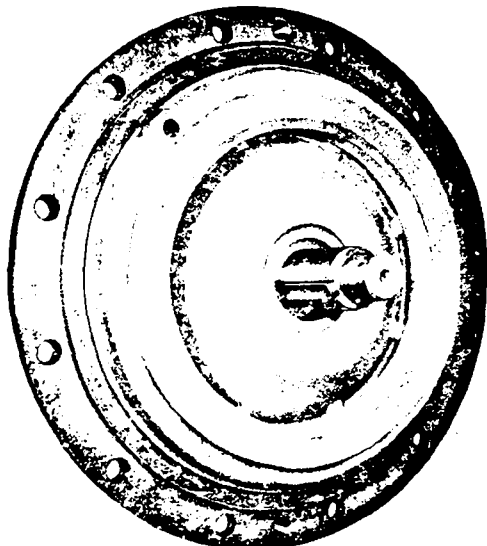

Fig. 28: Assembled
Place gasket (400.3) on the bearing bracket (330). Push pressure cover (163) onto the centering of the bearing bracket (fig. 28).